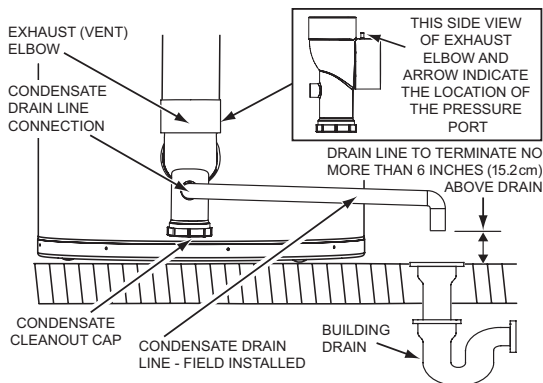

Figure 12
Condensate drains from the water heater at the exhaust elbow located at the bottom. The field installed condensate drain line must not be elevated above the condensate drain connection on the condensate trap, see Figure 12. If the condensate does not drain properly it will build up in the exhaust (vent) elbow. This will restrict the flow of flue gases and cause the Blocked Exhaust pressure switch to open its contacts. The control system monitors all pressure switches, if the Blocked Exhaust Switch contacts are open the control system will lock out and disable heating operation. The "Blocked Exhaust" Fault message will be displayed on the control system's LCD.
DO NOT remove the factory installed exhaust/condensate elbow for any reason, see Figure 12. The water heater's vent pipe is under a slight positive pressure while unit is in operation. The water trap inside of the exhaust/condensate elbow prevents flue gases from escaping into the installed space.
2. Install a 1/2 inch PVC condensate drain line between condensate drain connection on the Exhaust/Condensate Elbow and a suitable building drain with a slight downward slope to drain, see Figure 12.
3. Terminate the condensate drain piping with an elbow above the drain. Ensure that any discharge will exit the condensate drain line no more than 6 inches (15.2 cm) above a suitable building drain, or external to the building, see Figure 12.
4. Ensure the condensate drain line is not elevated above the condensate drain connection on the Exhaust/Condensate Elbow, see Figure 12.